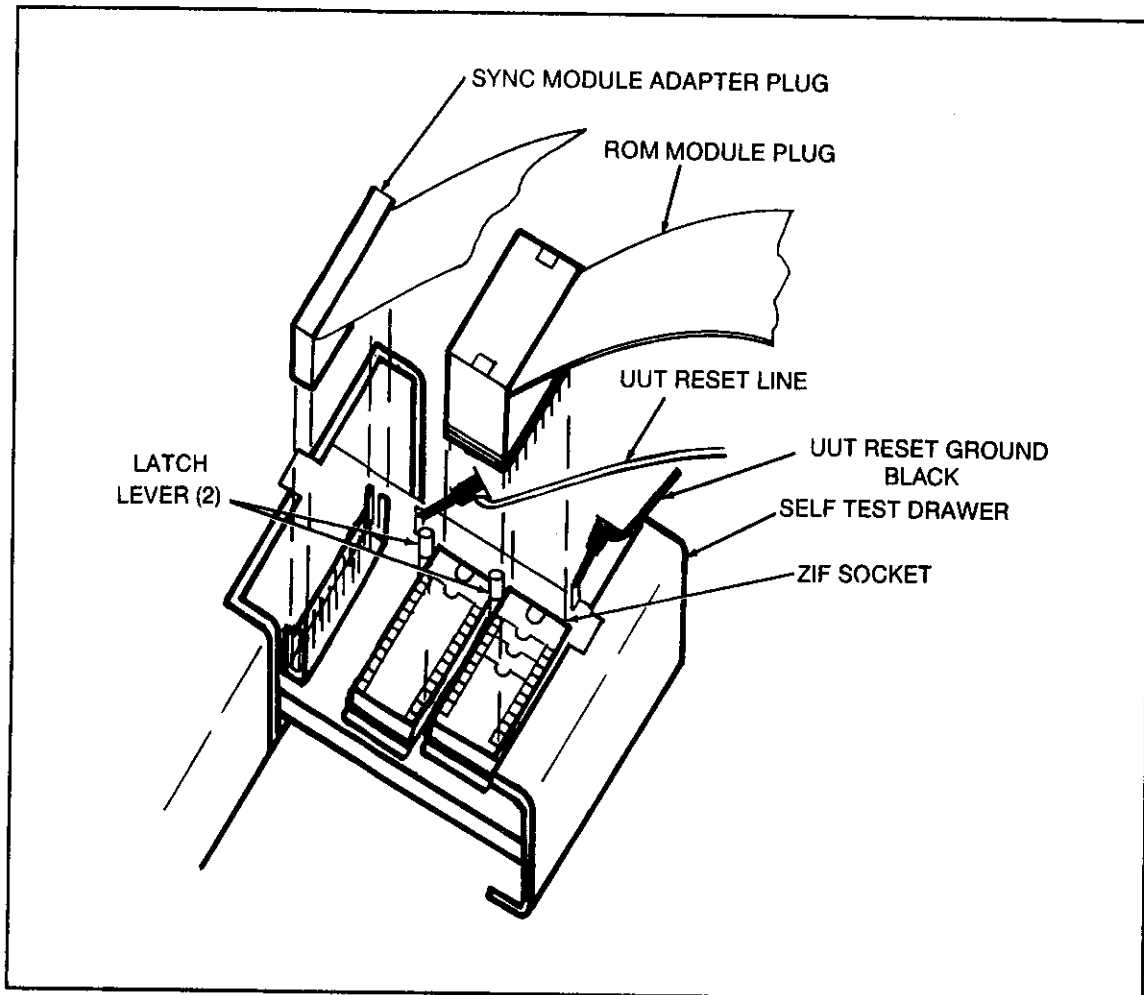

Figure 2-6. Connecting the ROM and Sync Modules to the Self Test PCA
5. Insert the Sync Module Adapter Board cable into the socket on the self test pca (as shown in Figure 2-6). Connect the UUT Reset line flying lead to the reset line test connector and the UUT Reset ground line flying lead to the ground line test connector on the self test pca. (The Sync Module Reset ground line flying lead must be disconnected from the UUT during self test, otherwise an error will occur.)
6. Insert the ROM Module cable plug into the Zero-Insertion Force (ZIF) self test socket (as shown in Figure 2-6):